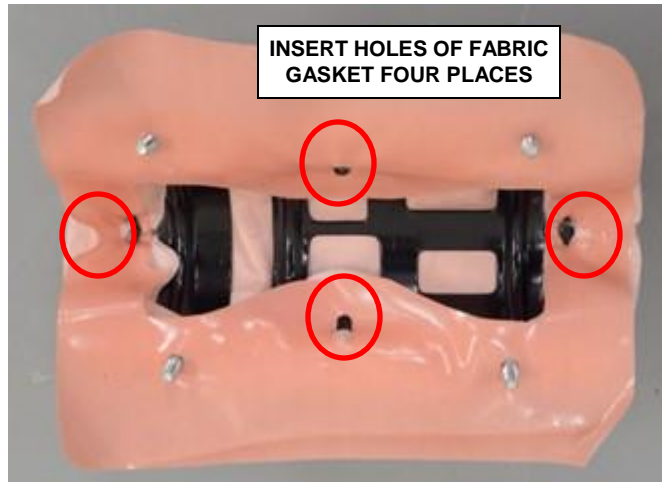

Figure 44 – Fabric Gasket
- g. With the help of a trim tool insert the holes of fabric gasket, four places (Figure 44).